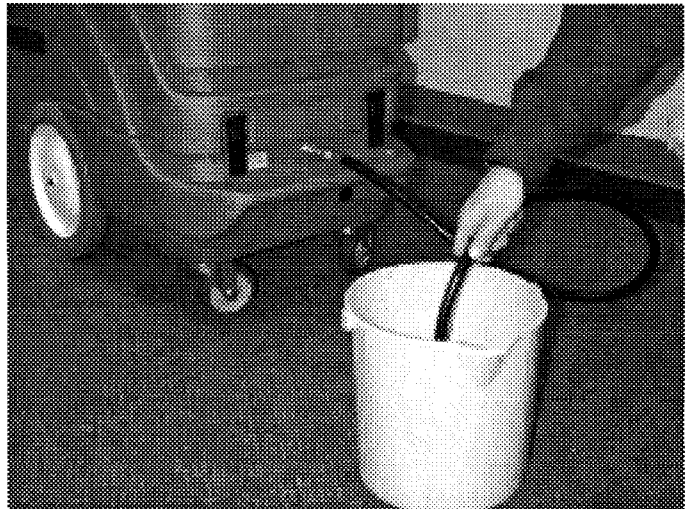

Fig. 9
2. Activate "PUMP" switch. Pump solution into a empty bucket. (Figure 9)